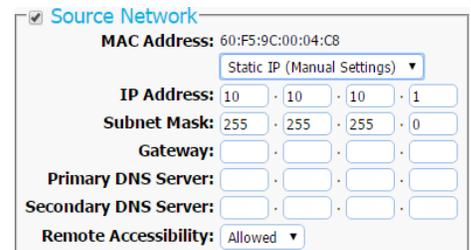

Figure 38. The "Source Network" section on the "Configure" screen's "Network" tab.
- b. In the "Source Network" section, select **Static IP** from the drop-down box underneath the MAC address (see Figure 38).
Based on the IP address configuration of a Ditto DX Forensic FieldStation that's displayed in Figure 38, a valid configuration for an iSCSI device would be as follows: